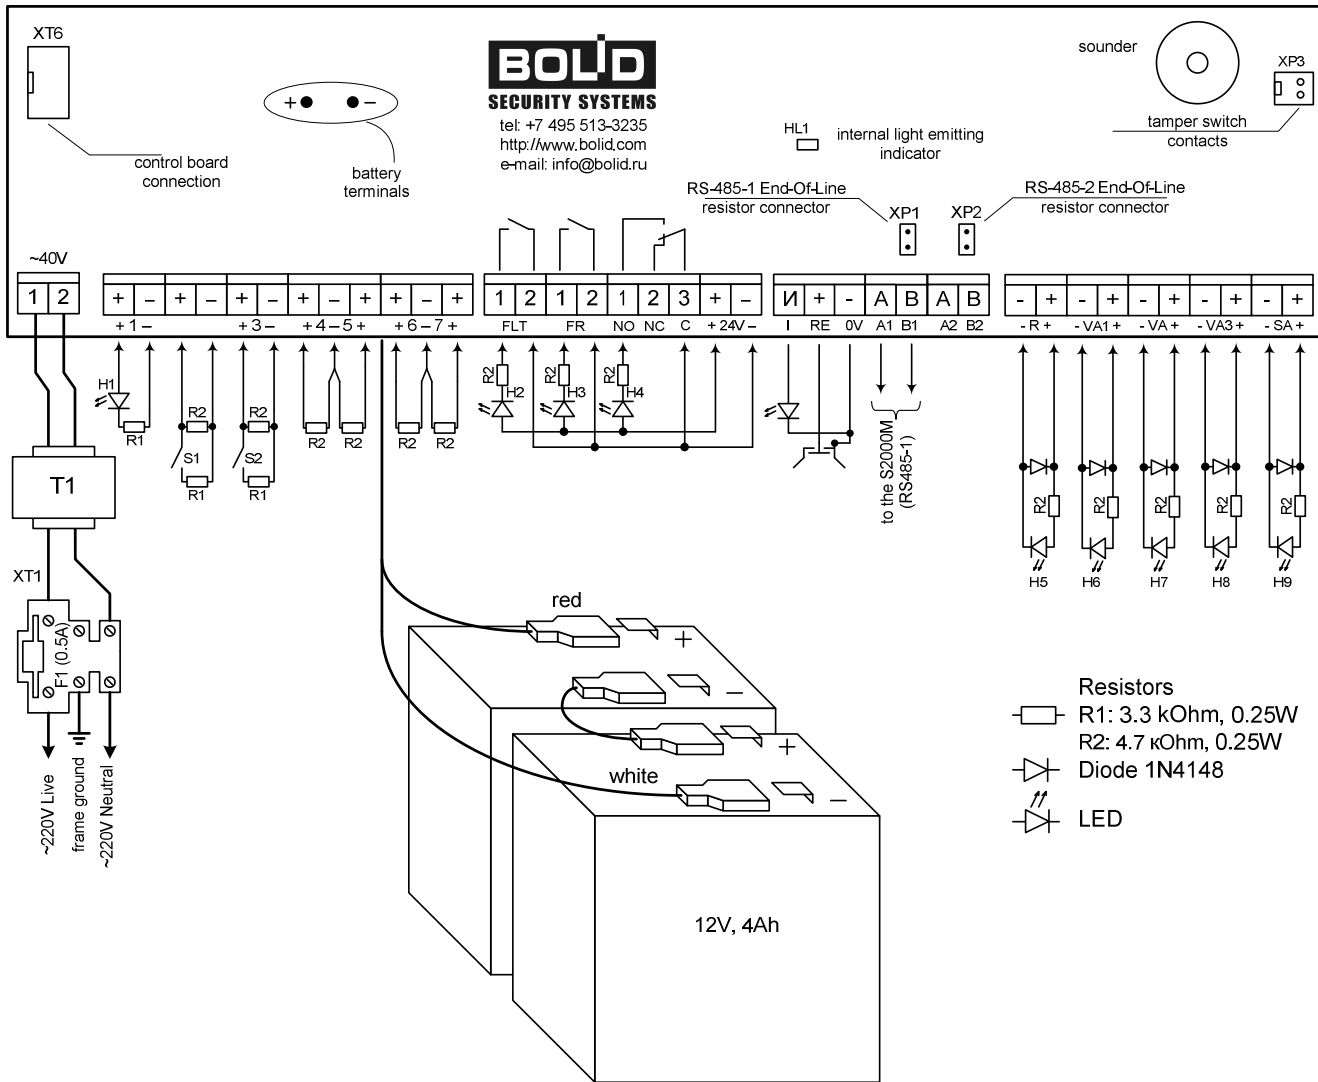

Figure 6-9. Wiring the Panel for Testing
- 1) Establish the test set-up shown in Figure 6-9.
If the AUTOMATIC MODE indicator is turned on, reset it by pressing the relevant button. The H8 indicator (see Figure 6-9) shall start lighting.
- Close the S1 contact (see Figure 6-9). H1 indicator shall have being off for 3 s, the LOOP 2 indicator on the panel front plate shall flash with red color, and the S2000M console shall display “FIRE SIGNAL 127/002”.